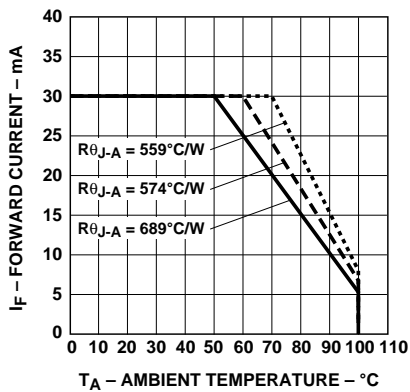

Figure 5. Maximum Forward DC Current vs. Ambient Temperature Derating Based on $T_J \text{ MAX.} = 110^\circ\text{C}$.
3. Derate linearly as shown in Figure 5.